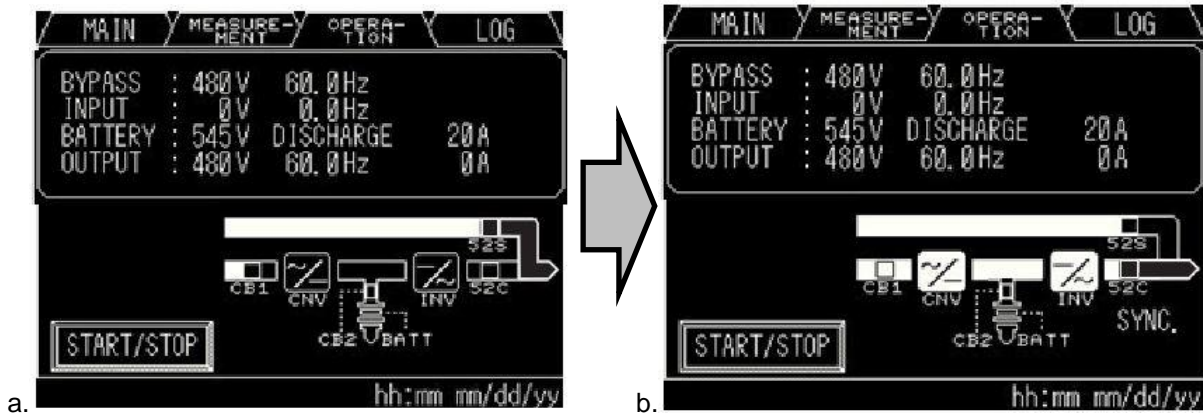

Figure 5-20 Automatic Startup of Inverter and Converter
- d.) The LCD panel boots up automatically and opens up in the “MAIN” Tab; the Converter and Inverter will start automatically (Figure 5-20).